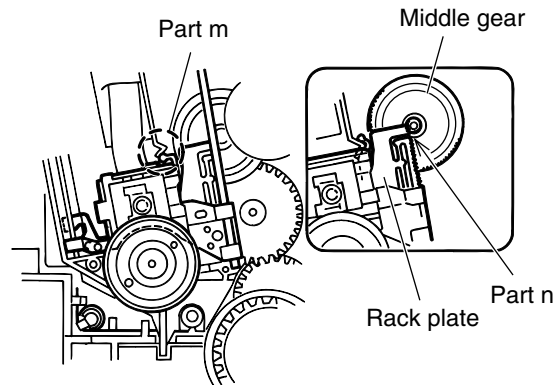

Fig. 16
3. Engage the part **k** of the pickup assembly with the CH. base assembly first, and set the part **j** of the rack plate in the opening **l** next. Then, reinstall the pickup assembly while shifting it to the turn table side (inward) so that the part **m** of the rack plate is positioned as shown in Fig. 16.